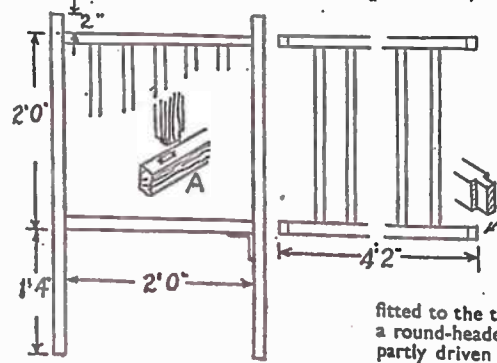

Fig. 1
metrical design, twice repeated. This is then placed round a tub and paint is sparingly dabbed on. White paint will be quite suitable. When the stencil is removed, the white stencilled parts act as a guide for the hand-painted colour work (Fig. 1). For these, coloured enamels are very suitable. For flat-sided tubs, a single flat stencil is all that is needed.
the end parts. Take apart, then glue the pales to the fixed side rails, glue in the rails, and rescrew the mattress across. In the angles between front legs and rails, screw 4in. steel furniture brackets, as shown in Fig. 1, to stiffen the legs at the open side of the cot. It will be wise here to measure across the open side to make sure the legs are truly vertical, or the drop side will not fit well.
Sizes of timbers are given in the cutting list, and need not be repeated here, but, of course, any diversion from these sizes will make some amendments necessary. Details as to width and length are given in Fig. 1, and should be strictly adhered to, as these are standard, and suitable to the sizes of cot mattresses and springs sold in the shops.
Cut the four legs to length, and set out the position of the mortises for the horizontal rails. These are  $\frac{1}{2}$ in. wide,  $1\frac{1}{2}$ ins. long and 1in. deep. Note that no mortises are required for the drop front, as this is an independent unit. Cut the end rails to length given, plus  $\frac{1}{2}$ in. each end for tenons. The tenons are cut  $\frac{1}{2}$ in. by  $1\frac{1}{2}$ ins. to suit the mortises, of course. The rails for the fixed side are cut to the length given in Fig. 1, the ends being tenoned as before. Now try the rails in their respective mortises for fit. It will be seen that the tenons for side and ends will have to be mitred, as at (B) Fig. 3, to meet together, that will be apparent, of course, when fitting them together.